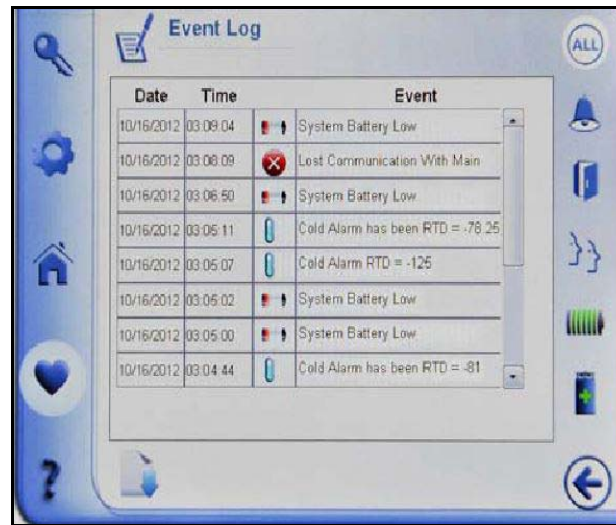

Figure 23. Event Log Screen
2. Press the File Download icon at the lower left of the Event Log screen (refer to *Figure 23*). The following screen appears: